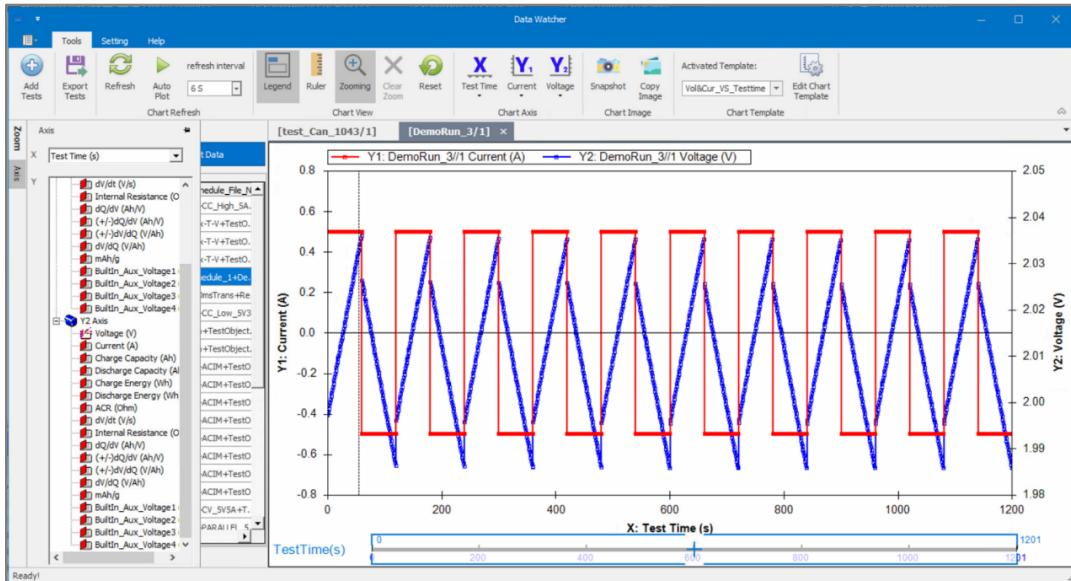

Figure 11-26 Voltage Selected as the Y2 Coordinate Axis
- c) Select the Y2-Axis, as shown in Figure 11-26.